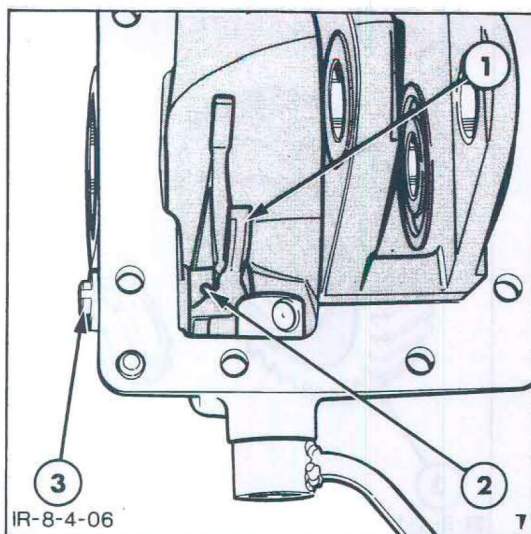

Figure 6
9. Using a pin punch knock the pin securing the fork on the detent shaft into the "centre" of the shaft, Figure 6.